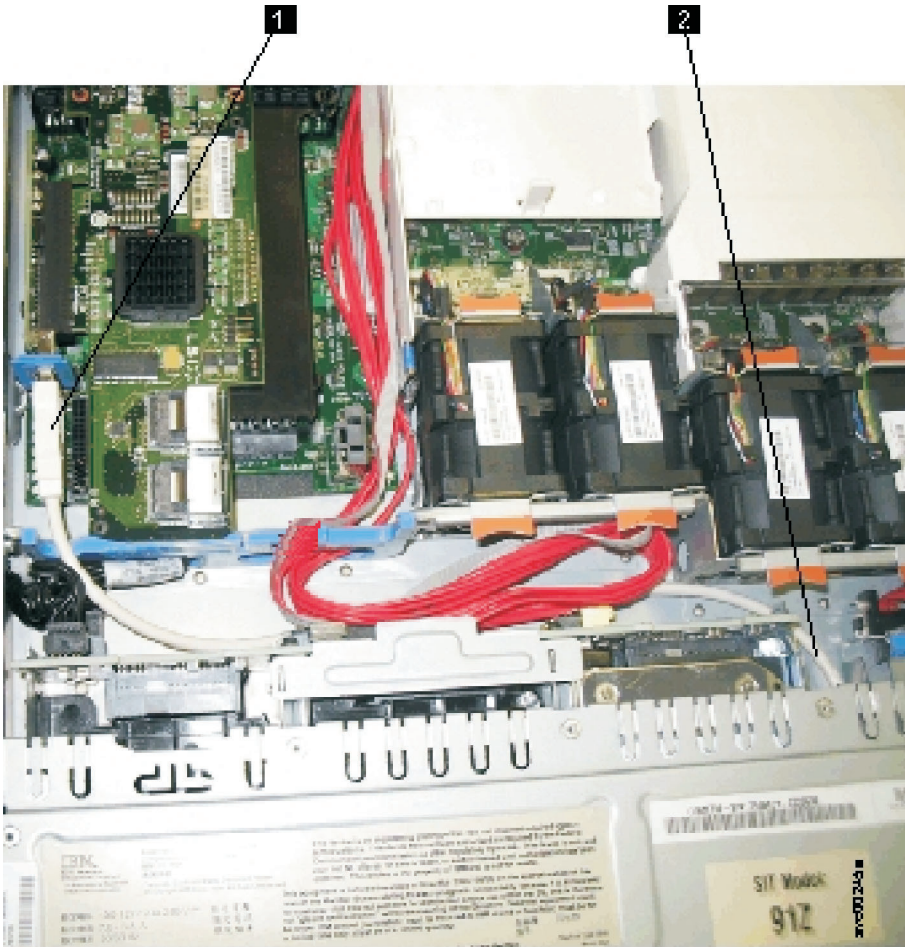

Figure 80. USB service-controller cable connected to the disk controller and USB riser card in the SAN Volume Controller 2145-CF8
- b. Locate the USB connector (**1** in Figure 80 on page 80) on the left side of the SAN Volume Controller 2145-CF8.
- a. To reinstall the cable, *carefully* thread the USB cable through disk-drive bay 5, routing the larger connector of the cable to the USB connector ( **1** in Figure 80 on page 80) on the USB riser card. Route the cable beneath any red SAS cables that are attached to the disk backplane.